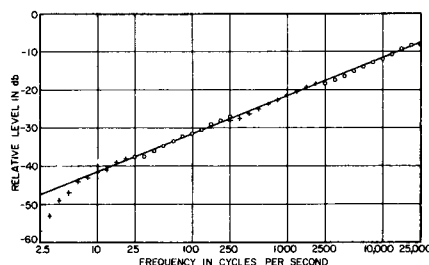

Figure 7. Results of Analysis of Noise-Generator Output Voltage by a Type 1564-A Analyzer. (Straight line drawn at slope of 10 db per frequency decade.)
**2.6 ANALYSIS OF NOISE BY CONSTANT-PERCENTAGE ANALYZERS.** If the output of the Type 1390-B Random-Noise Generator is analyzed by a Type 1564-A Sound and Vibration Analyzer, the results will be similar to those shown in Figure 7. Here the indicated level increases 10 decibels for each decade increase in frequency. This result can be understood by realizing that this analyzer has a bandwidth that is essentially a constant percentage of the center frequency. For example, at 5 kc the effective band width for noise is about 160 cps, and at 500 cps is about 16 cps.